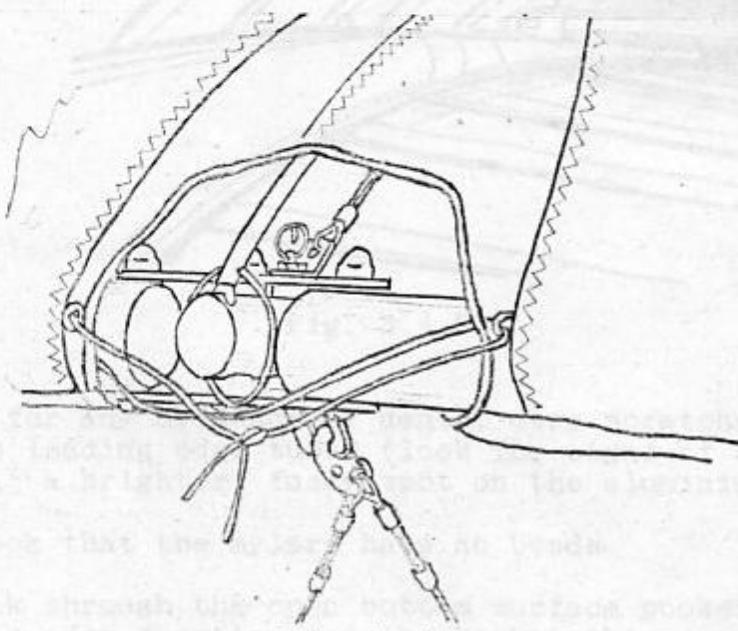

Fig. 3.4.1.
1. Do a complete preflight inspection of the glider. It is your responsibility during this "preflight" to check every part, component and assembly on the glider. Beginning at the nose, check all self-locking nuts and the wing nut and the safety ring which secure the top front wire (Fig. 3.4.1)